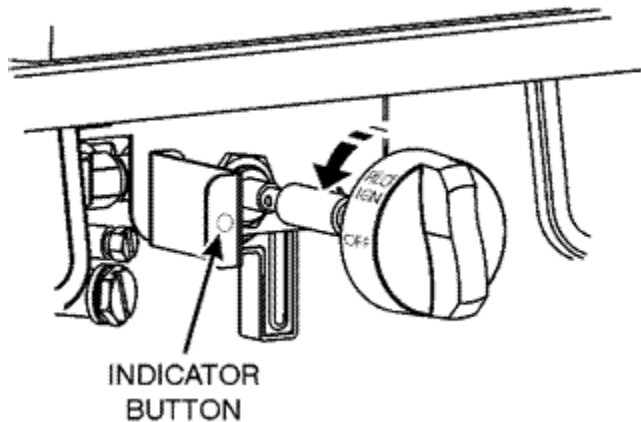

Figure 2.
- Depress the control knob and rotate it anticlockwise to the pilot ignition position (See figure 2). A 'click' will be heard as the integral piezo operates. A flame should appear at the pilot. Keep the control knob depressed and hold the pilot ignition position for five seconds. When the control knob is released the pilot flame should remain lit. If a flame does not appear at the pilot then turn the control knob clockwise to the 'OFF' position and repeat the above.